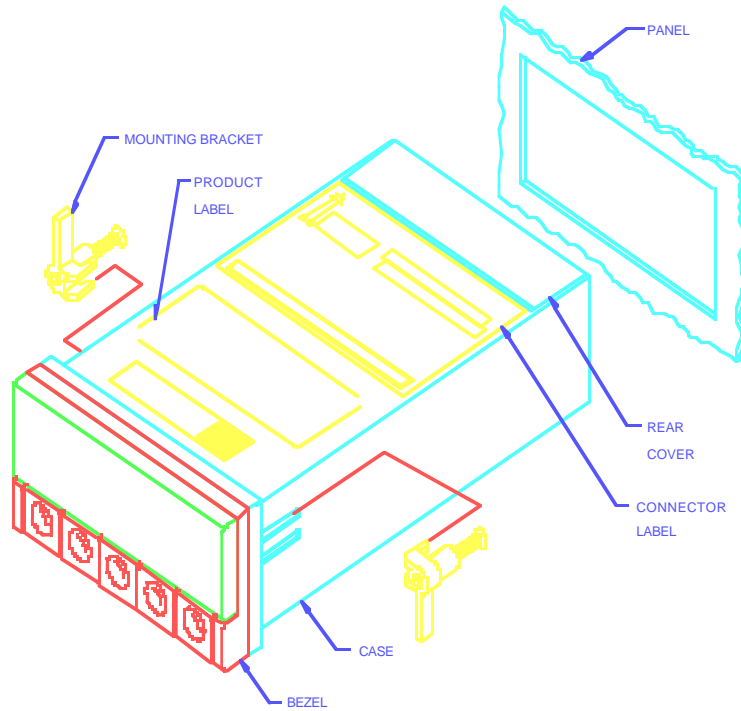

Figure 6-3. Meter - Exploded View
1. Cut a hole in the panel, as shown in Figure 6-3. For specific dimensions, refer to Section 25, Figure 25-1.